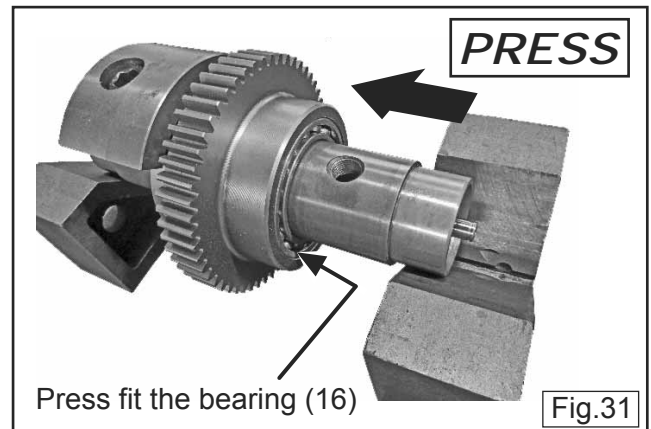

Fig.31
- ⑥ Press fit the bearing (16), then fix the drive gear (15). (Fig. 31)